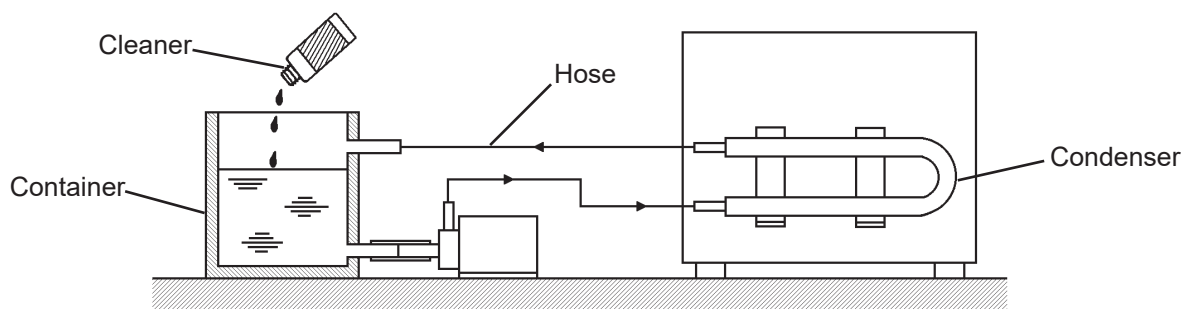

Fig. 7
- 6) Connect hoses as shown in Fig. 7 and secure them by hose bands.